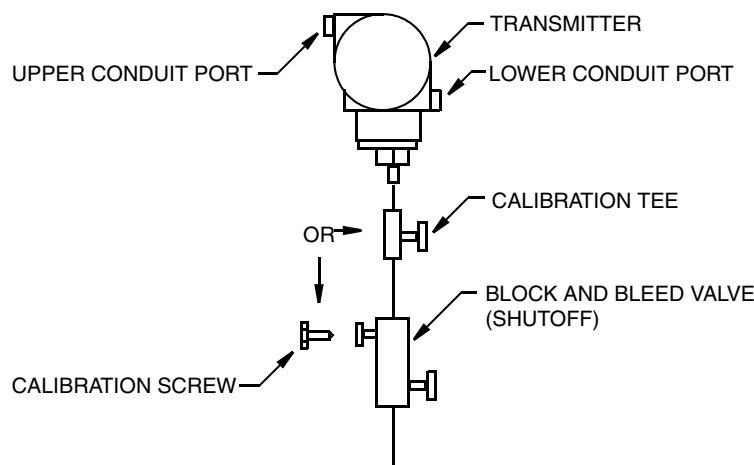

Figure 27. Typical Transmitter Piping (IGP10 shown)
Figure 27 shows a typical piping application. Calibration supply pressure can be applied via a calibration tee or calibration screw. The lower conduit port can be used as a drain for moisture buildup in terminal compartment. For Model IAP20, IGP20, IGP25, and IGP50 Transmitters, tighten the process connector bolts to a torque of 61 N·m (45 lb·ft) and drain plugs and vent screws to a torque of 20 N·m (15 lb·ft).
2. IAP10, IGP10, IGP25, and IGP50 Transmitters mounted directly to process piping or a pressure vessel as shown in Figure 27, could require the use of a shutoff valve (shown) to comply with the requirements of ASME Power Piping Code B31.1 and Chemical and Petroleum Piping Code B31.3.